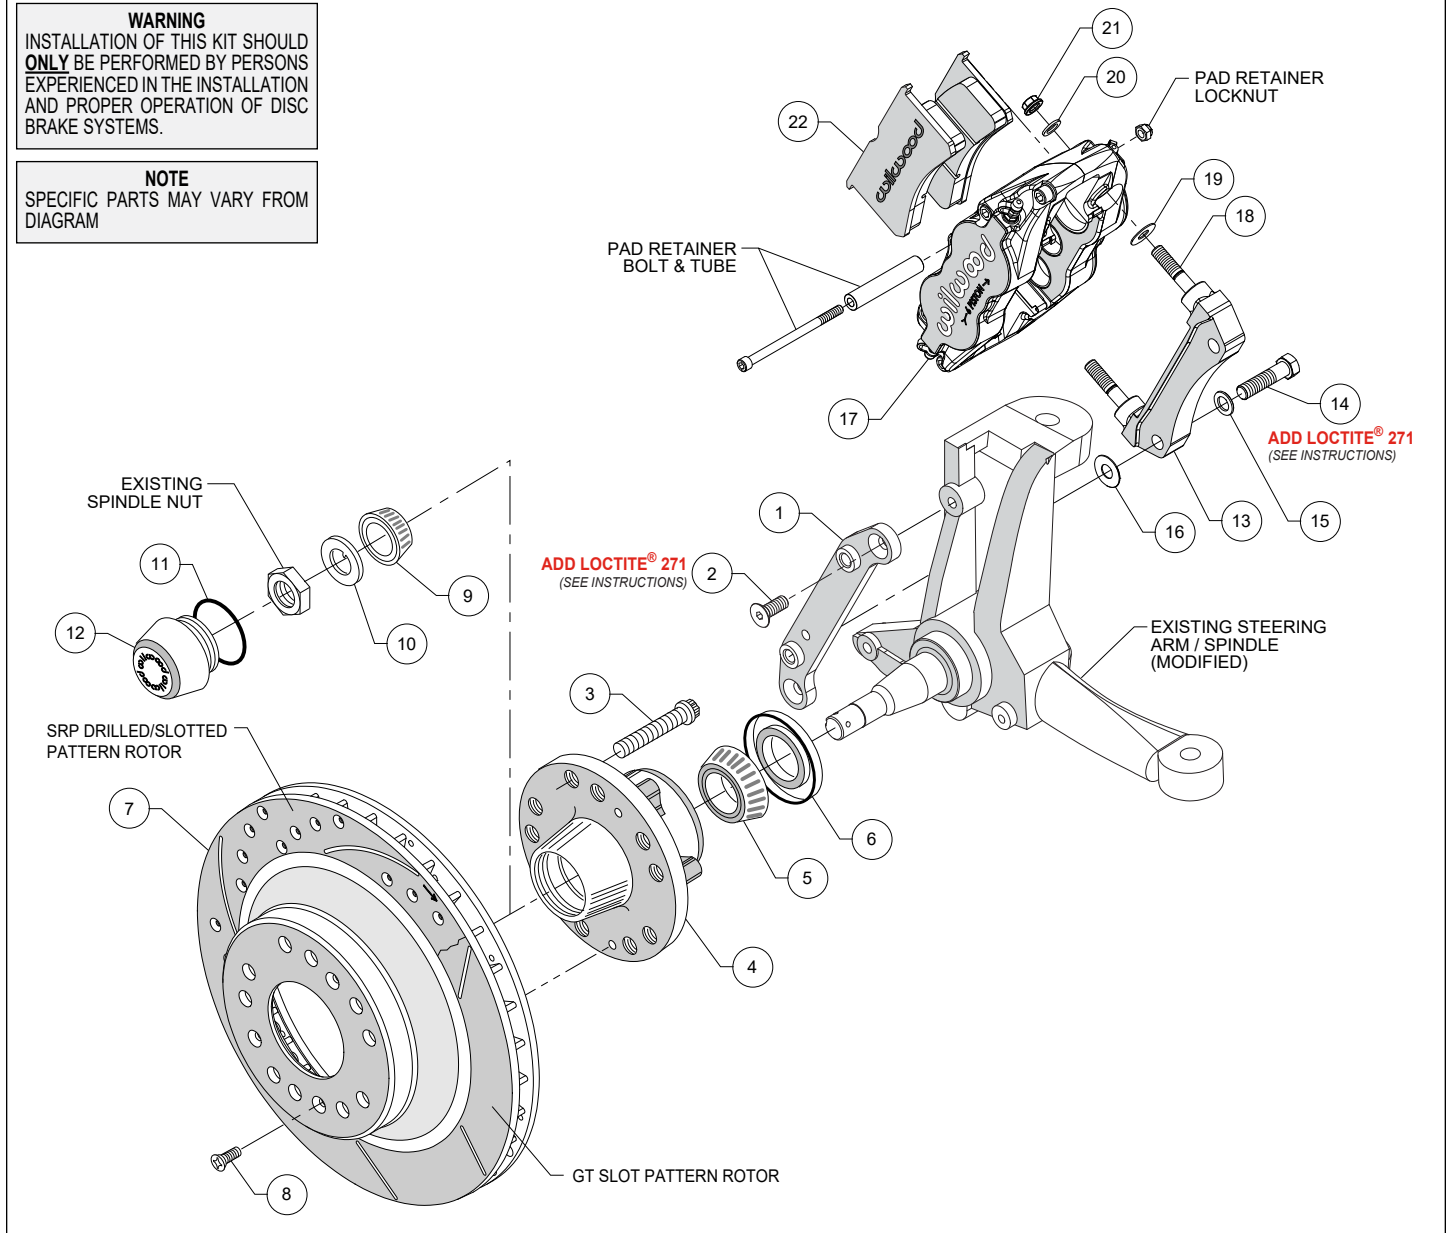

Figure 2. Typical Installation Configuration
NOTE: Numbers in parenthesis refer to the parts list and Figure 2 on the preceding pages.
•Orient the flat mounting bracket (1) as shown in Figure 2 and install using bolts (2). **NOTE:** Be sure the heads of the flat caliper bracket (1) insert nuts are facing outward toward the wheel. Temporarily tighten the mounting bolts. **NOTE:** The bracket must fit squarely against the mount bosses on the upright. Inspect for interference from casting irregularities, machining ridges, burrs,
•**NOTE:** Please reference the caution statement at the beginning of the assembly instructions. The radial mount caliper bracket (13) should initially be installed with clean, dry threads on the mounting bolts (14). Orient the bracket, as shown in Figure 2 and install using bolts (14) and washers (15). Initially place one .030" thick shim (16) on each bolt between the radial mount caliper bracket (13) and caliper mounting flat bracket (1), Figure 2. Temporarily tighten the mounting bolts. Later, after the caliper alignment has been checked, the mount bolts will be secured using red *Loctite*® 271.
- Install wheel studs (3) into the hub (4), Photo 1. Torque to 77 ft-lb. **NOTE:** There are two five lug patterns in the hub (5 x 4.50 and 5 x 4.75). Ensure the correct hub stud pattern is being used to fit the wheel application.
- Pack the large inner bearing cone (5) with high temperature disc brake bearing grease (available from your local auto parts store) and install into the backside of the hub (4), Photo 2.
- Install the grease seal (6) by pressing into the backside of the hub (4), flush with the end of the hub, Photo 2.
- Pack the small outer bearing cone (9) with high temperature disc brake bearing grease and install into hub (4). Slide the hub assembly onto the spindle. Secure using spindle washer (10) and OEM spindle nut, Photo 3. Adjust bearings per OEM specifications. Install saved OEM nut lock (if any) and a new cotter pin (not included).
- Screw dust cap (12) into hub (4), Photo 4. Friction created by the o-ring (11) on the dust cap keeps it from unscrewing. **NOTE:** The O.D. of the existing OEM spindle washer may be larger than the I.D. of the dust cap not allowing it to seat against the hub face. Therefore, use the spindle washer (10) supplied with the kit instead of the OEM washer.
- Slide the hat/rotor (7) onto the hub (4) taking care to align the small countersunk holes in the hat with the small threaded holes in the hub. **NOTE:** The hat must fit flush against the hub face or excessive rotor run out may result. Install three flat head screws (8) through the small holes in the hat (7), Photo 4, and torque to 85 in-lb.
- NOTE:** This kit contains distinct right and left hand calipers that must be mounted in a specific direction, as described below. Initially place one .035" thick shim (19) on each stud (18) between the caliper and the bracket, as shown in Figure 2 and Photo 5. Mount the caliper (17) onto the bracket (13) using lock nuts (21) and washers (20), Figure 2. Ensure that the caliper is mounted so the largest pistons are at the rotor exit end of the caliper, in relation to the direction of rotor rotation. Temporarily tighten the lock nuts and view the rotor through the top opening of the caliper. The rotor should be centered in the caliper, Photo 6. If not, adjust by adding or subtracting shims (16) between the two brackets. Always use the same amount of shims on each of the two mounting bolts. Once the caliper alignment is correct, remove the bracket mounting bolts one at a time, apply red *Loctite*® 271 to the threads, and torque to 60 ft-lb.
- Remove the pad retainer bolt, locknut, and tube from the caliper. Insert the brake pads (22) into the caliper, with the friction material facing the rotor, as shown in Photo 7. Check that the top of the brake pad is flush with the outside diameter of the rotor, Photo 8. If not, adjust by adding or subtracting shims (19) between the